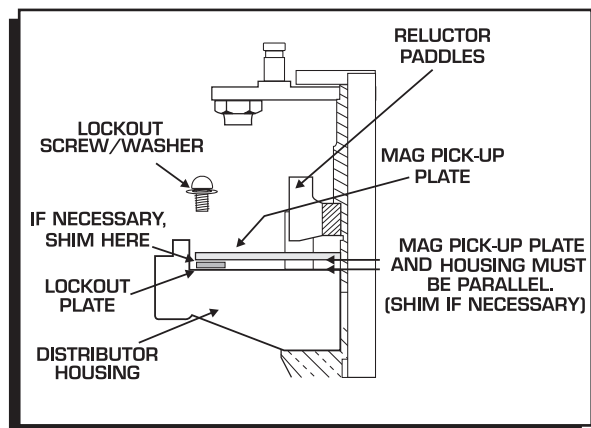

Figure 12 Checking Installation of the Lockout
6. It is important to make sure the pickup plate is parallel with the housing of the distributor (Figure 12). If it is cocked or slanted, the paddles of the retractor may contact the pickup. Check the clearance by rotating the distributor shaft. If necessary, use the supplied shims under the Lockout hold-down to correctly position the pickup plate.